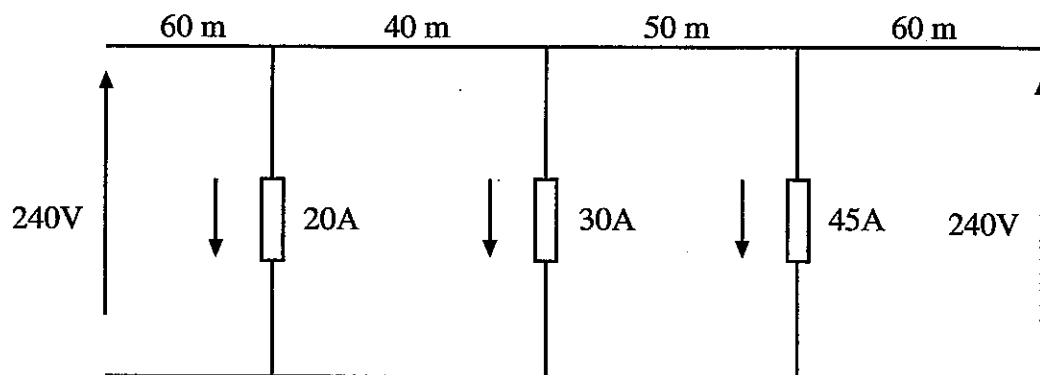

Fig Q1
1. • The distribution system shown in Fig Q1 is fed at each end with 240 volts. The resistance of the twin cable (Go + Return) is  $0.01\Omega/\text{m}$ .